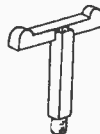

Fig. 3—The T support
The upright T-shaped supports are made in two parts, as seen at (H) and (I) on the pattern sheet. Wood $\frac{1}{4}$ in. thick would answer for these three additions which are let into the centre of the keel piece of the hull, see also Fig. 3. The mast is 6 ins. long and is made and shaped from $\frac{1}{8}$ in. round rod. It must not taper much towards the top, as can be seen in the sketch Fig. 1.